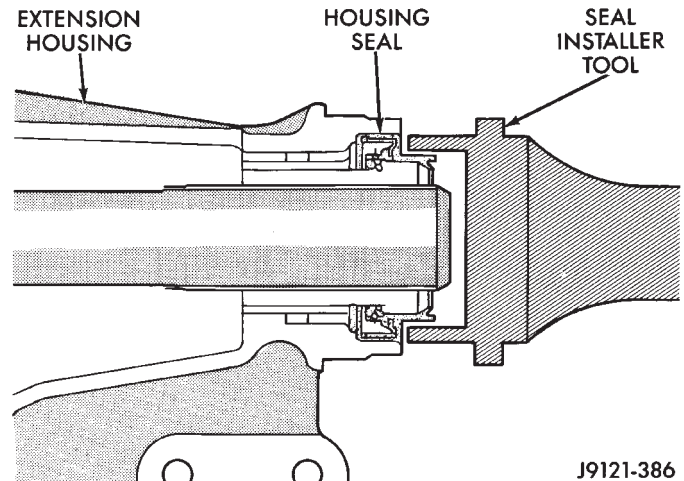

Fig. 129 Installing Extension Housing Seal
(30) Install new gasket on backup light switch and install switch. Tighten switch to 37 N·m (27 ft. lbs.) torque.
(31) Install new washer on drain plug. Then install and tighten plug to 37 N·m (27 ft. lbs.) torque.
(32) If transmission will be filled with gear lubricant before installation, place transmission in a level position. Then fill with Mopar 75W-90, grade GL-5 gear lubricant.
(33) Install new washer on fill plug. Then install and tighten plug to 37 N·m (27 ft. lbs.) torque.
(34) Install clutch housing and hydraulic concentric bearing.
(35) On models with extension housing, install new seal in housing with suitable size installer tool (Fig. 129). Lubricate seal lips with petroleum jelly before installation.
(36) On models with extension housing, install speedometer driven gear, speedometer adapter and speed sensor.